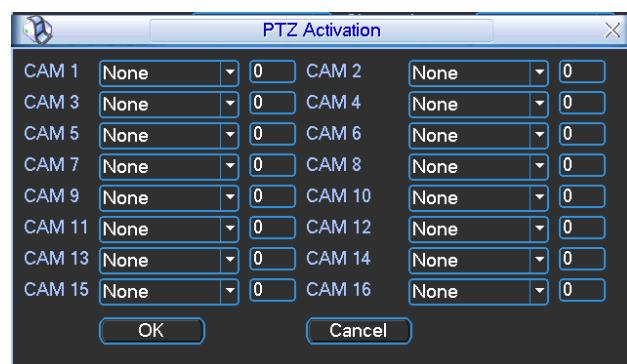

Figure 4-22
- PTZ activation: Here you can set PTZ movement when alarm occurs. Such as go to preset, tour &pattern when there is an alarm. Click “select” button, you can see an interface is shown as in Figure 4-22.